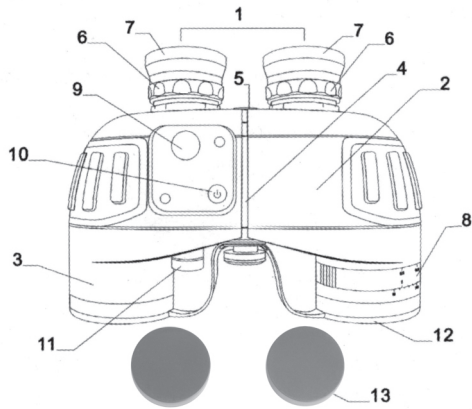

Fig. 2
3.2 Body assembly (Fig. 2)
Note: the image will not be clear. You will adjust for clarity in the next step. You must first set the binoculars interpupillary distance to fit your eyes. The setting for your eyes will be indicated on the interpupillary scale (fig.2,5). Note this scale setting for quicker resetting later.